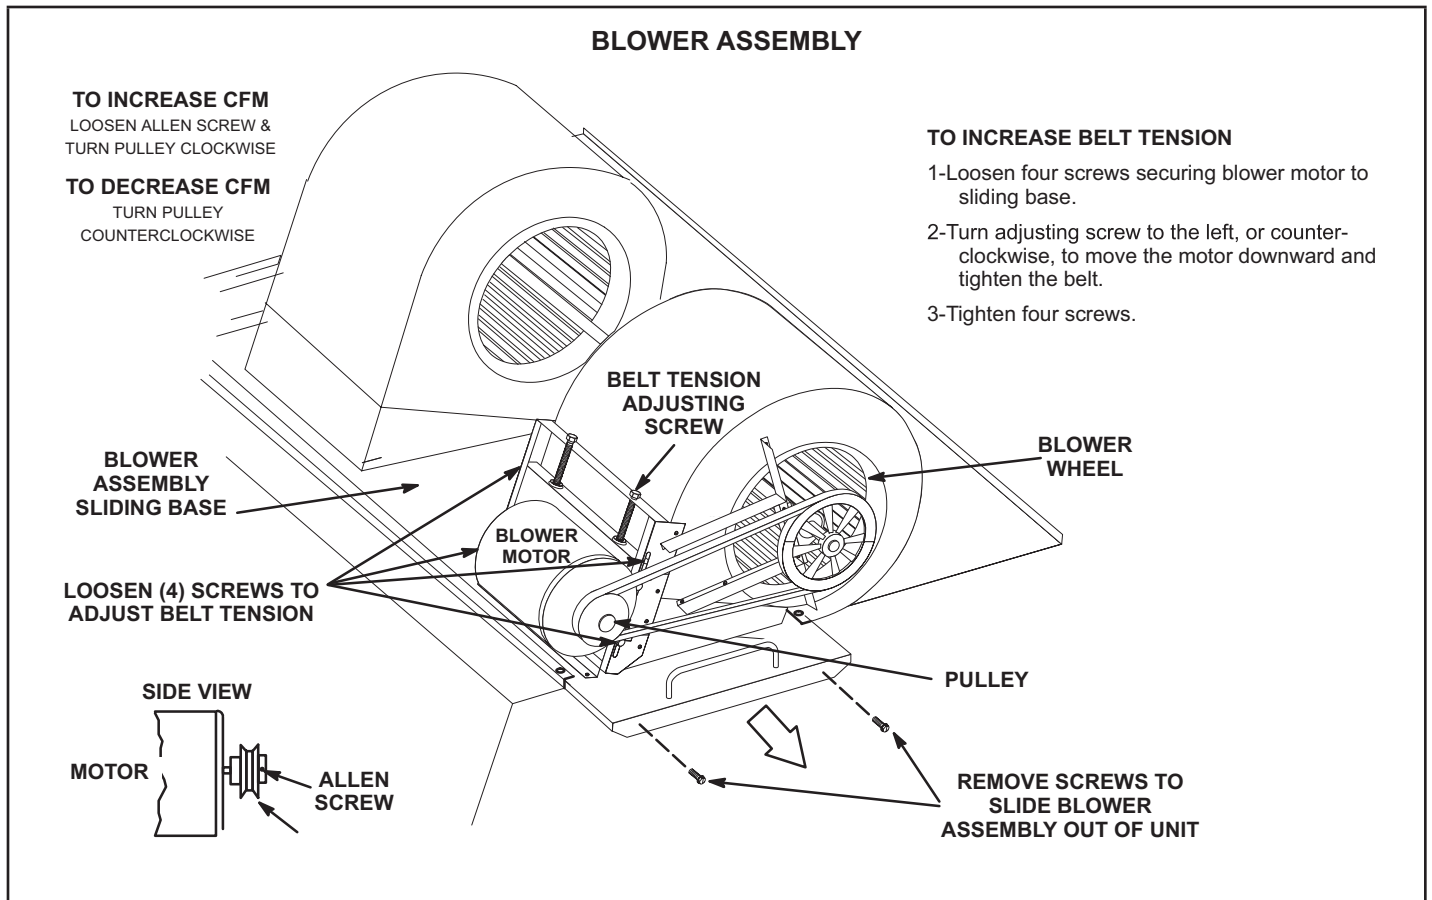

FIGURE 14
- 2 - Remove screws on either side of blower assembly sliding base. See FIGURE 14.
4 - The blower RPM can be adjusted at the motor pulley. Loosen Allen screw and turn adjustable pulley clockwise to increase CFM. Turn counterclockwise to decrease CFM. See FIGURE 14. Do not exceed minimum and maximum number of pulley turns as shown in TABLE 6.
- 1 - Loosen four screws securing blower motor to sliding base. See FIGURE 14.